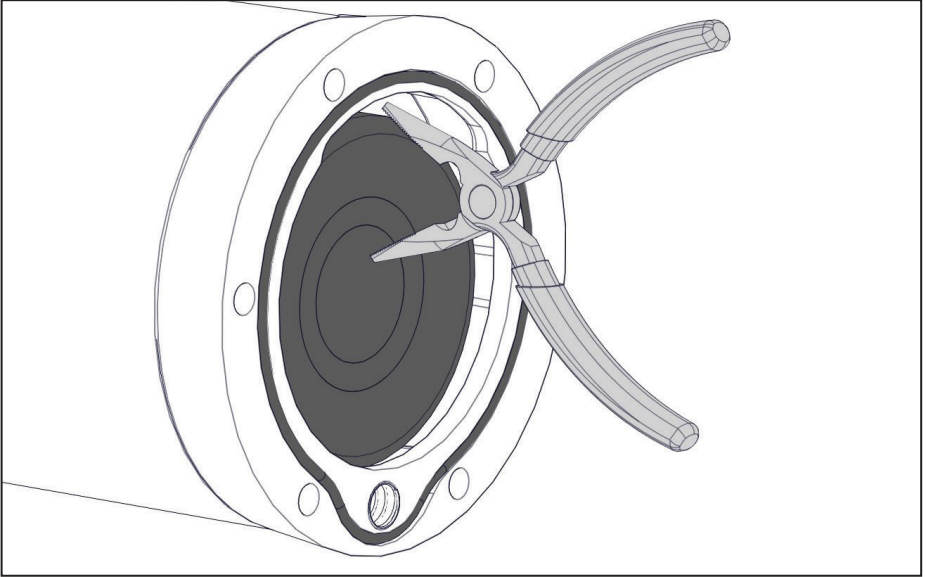

Figure 25 — Replacing the Coalescing filter spring
- ☐ Remove the Viton O-ring, coalescing element and wave spring from the AOST (Figure 25).